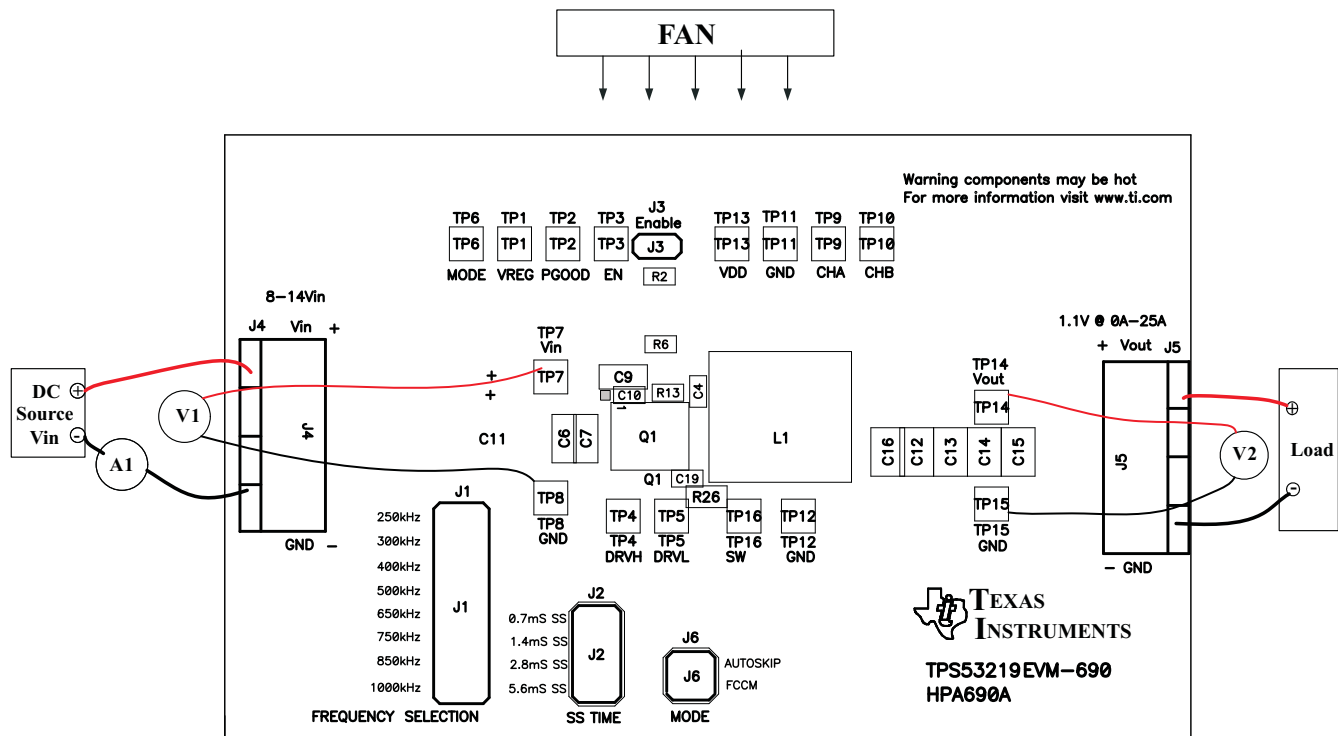

Figure 3. TPS53219EVM-690 Recommended Test Set Up
Voltage Source: The input voltage source V_{in} must be a 0-V to 14-V variable dc source capable of supplying 10 A dc. Connect V_{in} to J4 as shown in Figure 3.
Figure 3 is the recommended test setup to evaluate the TPS53219EVM-690. Working at an ESD workstation, make sure that any wrist straps, bootstraps or mats are connected referencing the user to earth ground before power is applied to the EVM.
1. Prior to connecting the dc input source V_{in} , it is advisable to limit the source current from V_{in} to 10 A maximum. Ensure that V_{in} is initially set to 0 V and connected as shown in Figure 3.
Place a fan as shown in Figure 3 and turn on, ensuring that air is flowing across the EVM.
1. Set up EVM as described in Section 5 and Figure 3.